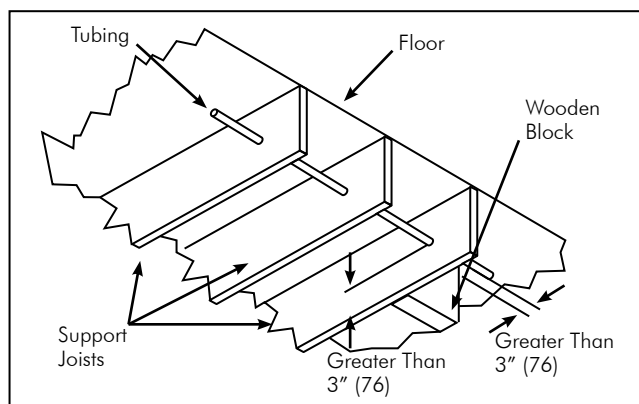

FIG. 4-16 No Shielding Required for Tubing Running Through Joists Greater than 3" (76) from a Potential Nailing Surface
- C. Where the tubing is supported more than 3" (76) from any outside edge of a stud, joist, plate, etc. or wall surface (see **FIG 4-16**)
- D. Where any non-restrained tubing can be displaced from the direction of potential penetration at least 3" (76)